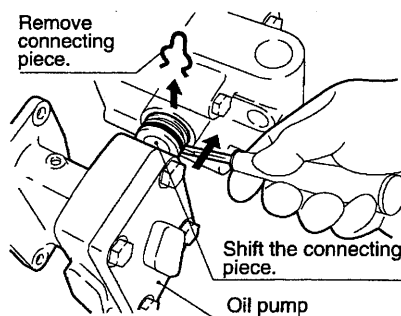

Fig. 43
- (1) Inspect oil pump every 8000 hours of operation.
- (2) After removing the bolts, replace the connecting piece suppressor as shown in Fig. 43. Shift the connecting piece toward the oil release valve body side using a minus screwdriver, then remove the oil pump.